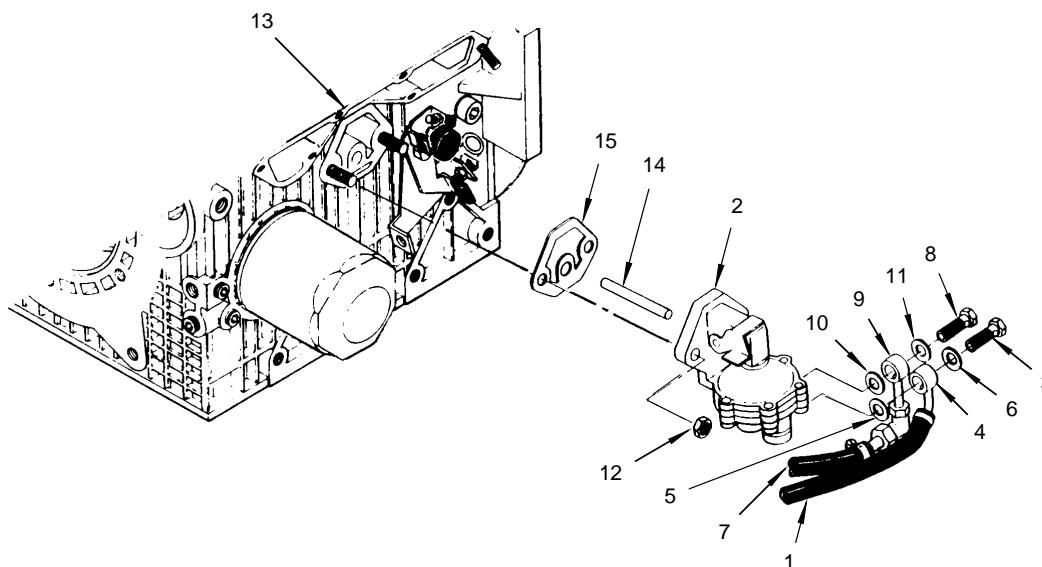

Figure 12. Fuel Pump Removal
**REMOVE FUEL PUMP** (Refer to figure 12.)**INITIAL SET-UP:****Tools:**